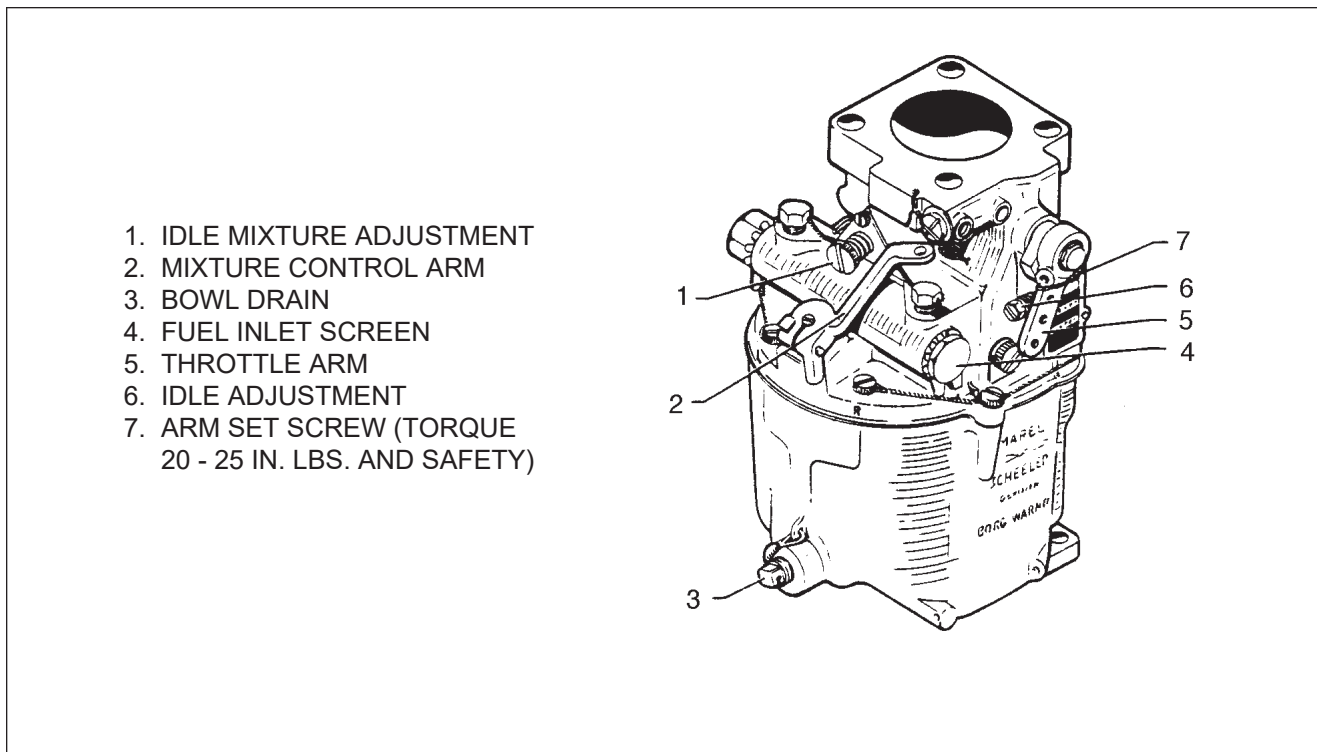

Figure 8-6. Carburetor
- d. Clean the fuel inlet screen, (Refer to Figure 8-6.)